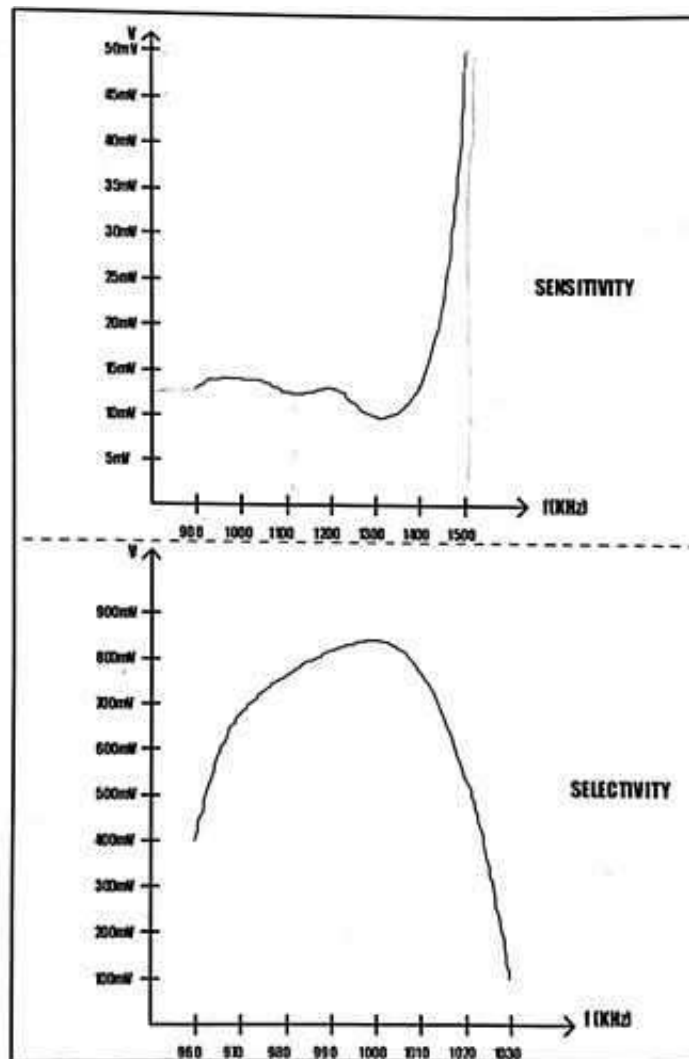

Fig. 3.7
1. Plot the graph of output of BM1 on Y- axis and local oscillator frequency on X-axis (Fig. 3.7)
Plot the graph accordingly as per the reading taken. For the carrier frequency and o/p Amplitude (FIG.3.7).